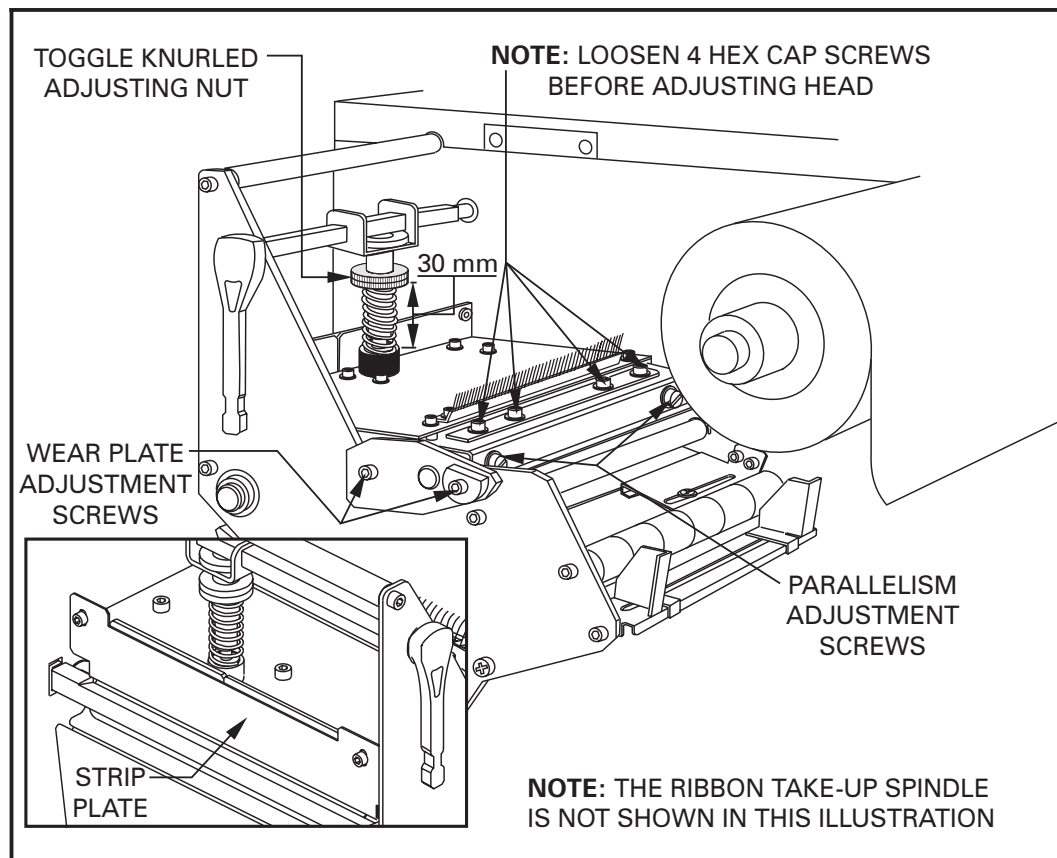

Figure 5.3 Printhead Adjustment Illustration
2. Adjust the Toggle Spring(s) by turning the Knurled Adjusting Nut(s) so that there is approximately 30 mm (1.2 inches) between the bottom of the Knurled Adjusting Nut and the top of the black Toggle Button (refer to Figure 5.3). *Be sure the toggle is centered over the media (105S/105Se). For the 160S, position both toggles so that they are half the distance between the Printhead Attaching Screw and the outside edges of the Printhead.*
Refer to Figure 5.3 for location of adjustment screws used in the following procedures.
Refer to Figure 5.3 for the location of the adjustment screws used in the following procedure.
Refer to Figure 5.3 for location of adjustment screws used in the following procedure.
3. Refer to Figure 5.3, and loosen the two Allen screws holding the Strip Plate to the front of the Printhead Assembly.